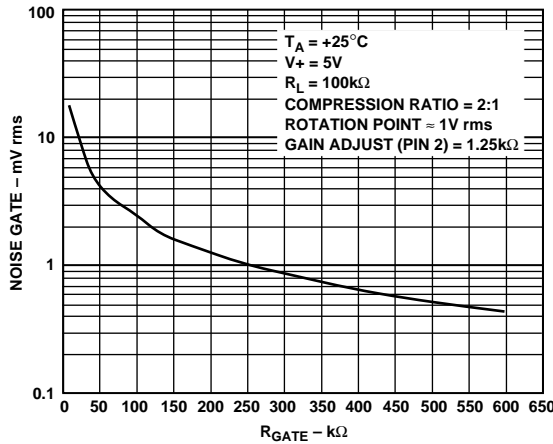
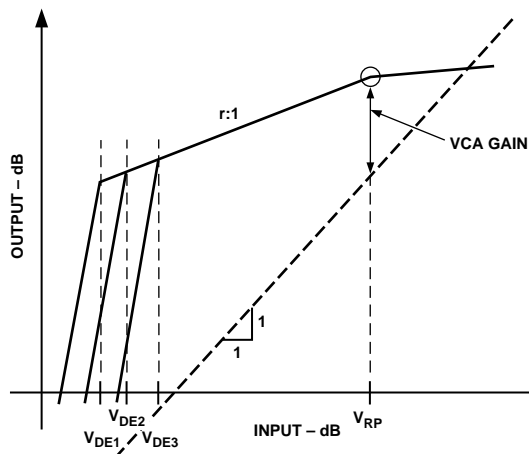

Figure 4. Noise Gate vs.  $R_{GATE}$  (Pin 9 to  $V_+$ )
Figure 20. Effect of Varying the Downward Expansion (Noise Gate) Threshold
**Downward Expansion Threshold.** The downward expansion, or noise gate, threshold is determined via a second reference voltage internal to the control circuitry. This second reference can be varied in the SSM2166 using a resistor,  $R_{GATE}$ , connected between the positive supply and the NOISE GATE SET pin (Pin 9) of the SSM2166. The effect of varying this threshold is shown in Figure 20. The downward expansion threshold may be set between 300  $\mu$ V rms and 20 mV rms by varying the resistance value between Pin 9 and the supply voltage. Like the ROTATION PT ADJUST, the downward expansion threshold is inversely proportional to the value of this resistance: setting this resistance to 1 M $\Omega$  sets the threshold at approximately 250  $\mu$ V rms, whereas a 10 k $\Omega$  resistance sets the threshold at approximately 20 mV rms. This relationship is illustrated in Figure 4. A potentiometer network is provided on the evaluation board for this adjustment. In general, the downward expansion threshold should be set at the lower extreme of the desired range of the input signals, so that signals below this level will be attenuated.